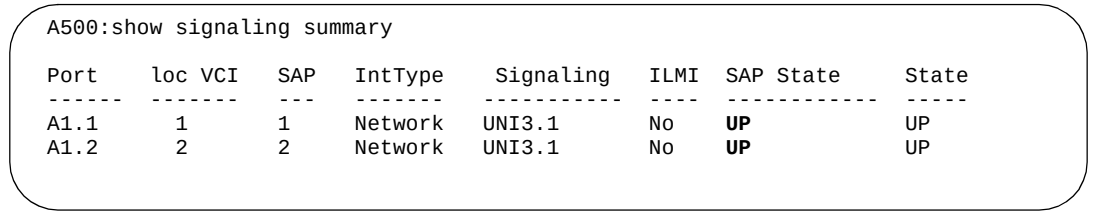

Figure 1-41. Screen output for the show signaling summary command
- 1. Enter **show signaling summary** on the A500 console. Figure 1-41 shows the screen output.
SAP State	May or may not be UP. Their values depend on more than just whether the port was marked as UP . (See highlighted data for SAP State in Figure 1-41 .)